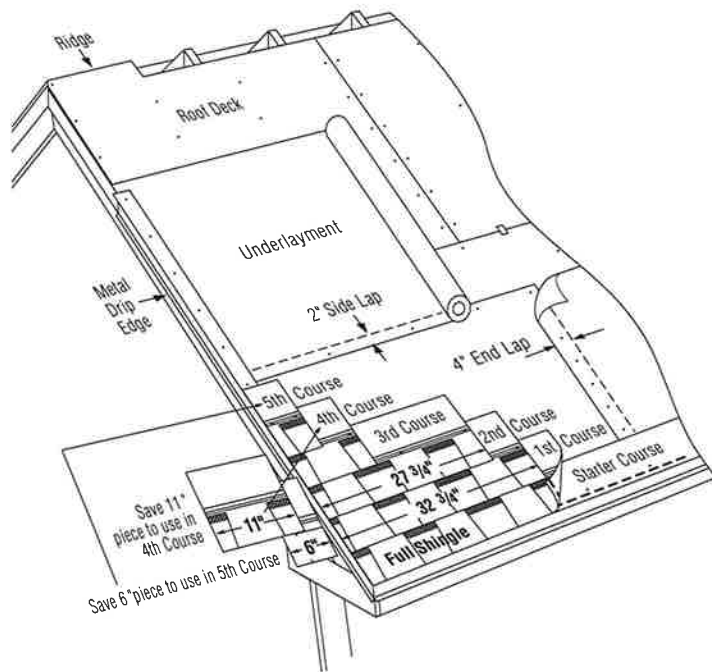

Figure 12-7: Applying the first 5 courses of Landmark.
**1ST COURSE:** Apply a full shingle at the lower left corner of the roof. Make the lower edge and left edge lie flush with the edges of the starter course (Figure 12-7).